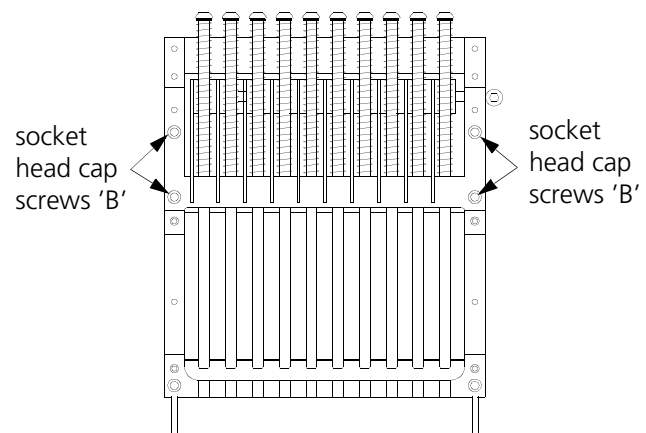

Figure 3-28
5. Refer to Figure 3-28 and align the 4 through holes on the upper section of the needle case with the 4 threaded holes in the bearing retainer plate assembly. Install the 4 "B" socket head cap screws. Snug the screws but do not tighten them at this time.